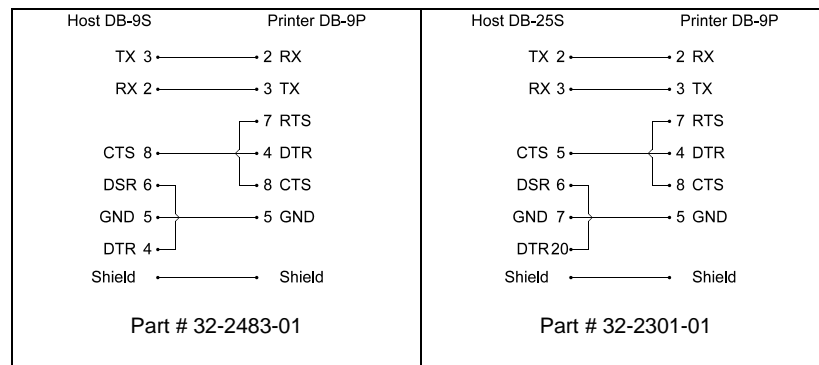

Figure 2-3: Interface Cables
- The Serial Port supports RS-232C communications via a DB-9 connector with specific pin-outs (interface cable part numbers and pin-outs are shown in Figure 2-3; contact your METTLER TOLEDO representative to order). Serial port settings are menu-selectable and must match the host settings.